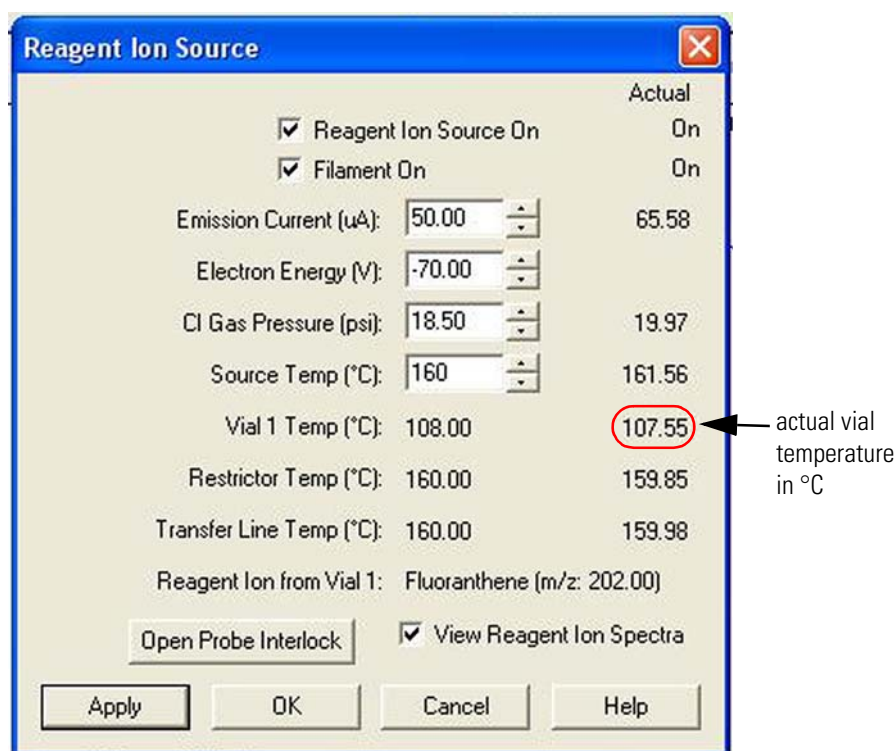

Figure 3-44. Reagent Ion Source dialog box
3. Click the reagent ion source portion of the instrument control icon at the top of the Tune Plus window. The Reagent Ion Source dialog box appears (Figure 3-44).
Observe the temperature of Vial 1 in the Actual column of the Reagent Ion Source dialog box (Figure 3-44). Nitrogen cooling gas will flow until the vial reaches 70 °C. (See “Turning Off the Reagent Ion Source: What to Expect” on page 2-14.) Allow up to 90 minutes for the vial temperature to reach ambient temperature (about 30 °C).
- b. Select the Reagent Ion Source On check box in the Reagent Ion Source dialog box when the ion source heater, flow restrictor, and transfer line heaters are at their operating temperatures. (See Figure 3-44 on page 3-49.)